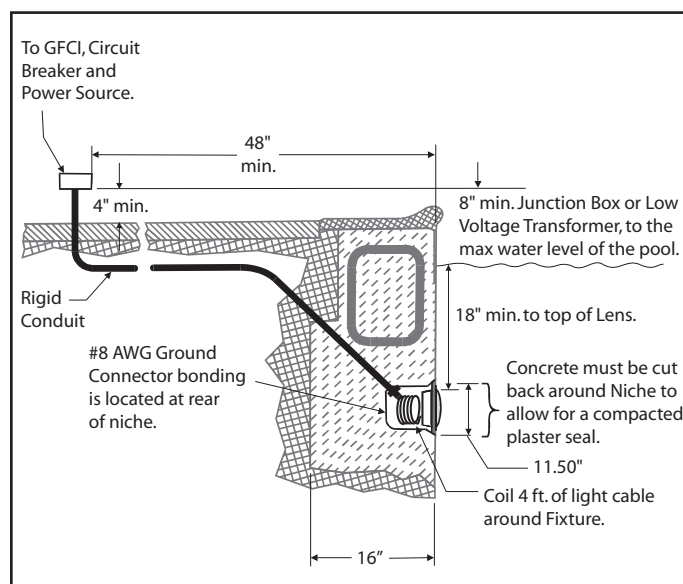

Figure 1. Jandy Pro Series Digital Color Light Installation
NOTE The electrician must complete preparatory steps before light fixture is installed. See Figure 1.
2. The junction box (or, for 12 volt models, the low voltage transformer) must be located at least eight (8) inches above water level, at least four (4) inches above ground level, and at least four (4) feet from the edge of the pool. See Figure 1.
(5) feet of the pool must be properly electrically bonded to a reliable point of grounding.
4. The wet niche must be properly installed so that the top edge of the underwater light's lens is at least 18 inches below the surface of the water in the pool. See Figure 1.
5. The wet niche must be properly electrically bonded and grounded via the No. 8 AWG ground connector located at the rear of the niche. See Figure 1.
1. Feed cord through conduit to junction box, leaving at least four (4) feet of cord at the light fixture to coil into the base of the light niche, see Figure 1. The four (4) feet of cord allows the light to be serviced after the pool is filled with water.
2. Cut the cord at the junction box, leaving at least six (6) inches of cord to make connections.
3. Strip six (6) inches of the outer cord jacket to expose the three insulated wires. *Be careful not to damage the insulation on the three (3) inner wires.*
4. Install strain relief over cord jacket and connect all three (3) wires to the corresponding circuit wires in the junction box. Install the junction box cover.
inches above ground level or pool deck level, and at least 48 inches from the edge of the pool or spa. See Figure 1.
3. The light fixture and all metal items within five (5) feet of the pool must be properly electrically bonded to a reliable point of grounding.
5. Leave at least four (4) feet of cord to coil around the light fixture or coiled into the base of the light niche, see Figure 1. This allows the light to be serviced after the pool is filled with water.
6. Cut the cord at the Junction Box, leaving at least six (6) inches of cord to make connections.
7. Strip six (6) inches of the outer cord jacket from the cord to expose the three insulated wires. *Be careful not to damage the insulation on the three (3) inner wires.*